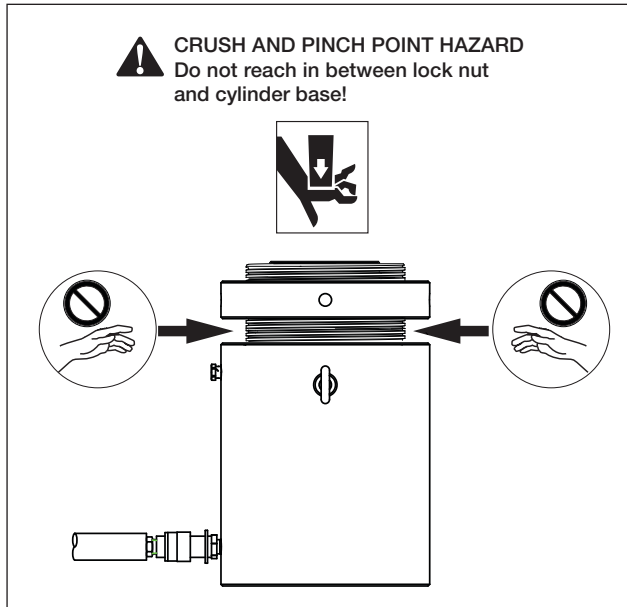

Figure 1, Crush and Pinch Point Hazard
**⚠ WARNING** Never reach in between the cylinder lock nut and the top of the cylinder base. Serious personal injury can occur if cylinder is retracted and hands, fingers or other body parts are present in this area. See Figure 1.